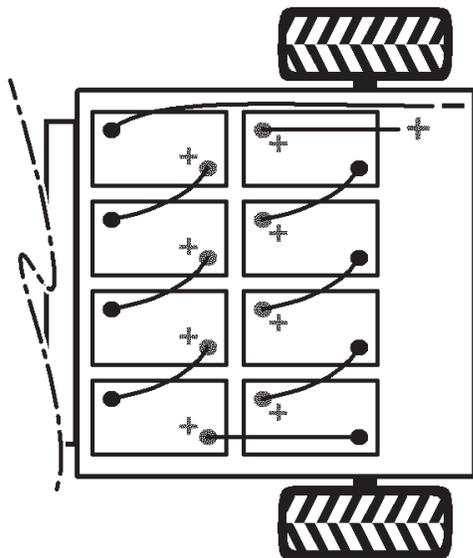

Figure 10
4. Install the batteries as shown in Figure 10.
Note: Pay attention to the battery polarity when installing the new batteries (Fig. 10).
6. Connect the batteries together with the battery cables included in loose parts, as illustrated in Figure 10. Ensure the cable routing does not allow cables to contact any sharp edges.
7. Connect the long, red, main positive lead between the bank of batteries and the vehicle (Fig. 10).
8. Connect the long, black, main negative lead between the bank of batteries and the vehicle (Fig. 10).